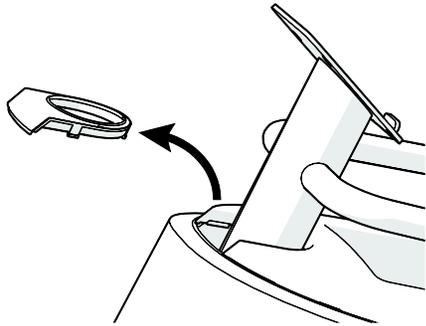

Figure 9
1. Lift the gasket upward and remove it from the center support (see Figure 9).